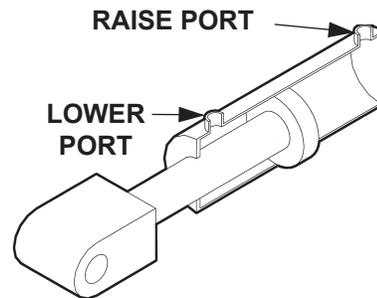

FIG. 50-1
4. Check the hydraulic cylinder. With the platform on the ground, remove line from the lower port of the cylinder (**FIG. 50-1**). Allow pump motor to run two seconds more while you watch for hydraulic fluid at the lower port. A few drops of hydraulic fluid escaping the port is normal; however, if it streams out, piston seals are worn. Replace seals.